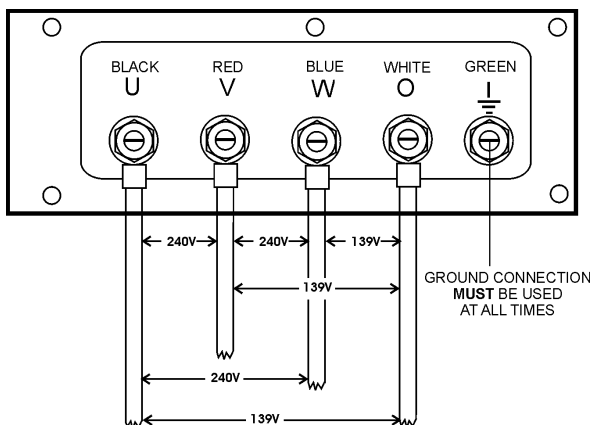

Figure 20. UVWO Terminal Lugs
2. Connect the load wires to the UVWO terminals as shown in Figure 20.